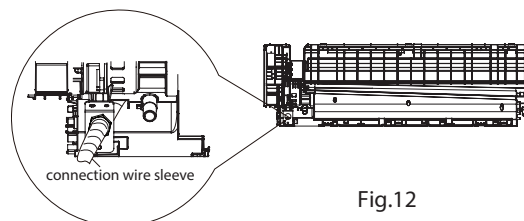

Fig.12
2. Fix the wire crossing board on connection wire sleeve at the bottom case; let the connection wire sleeve go through the wire crossing hole at the back of indoor unit, and then pull it out from the front. (As show in Fig.12)